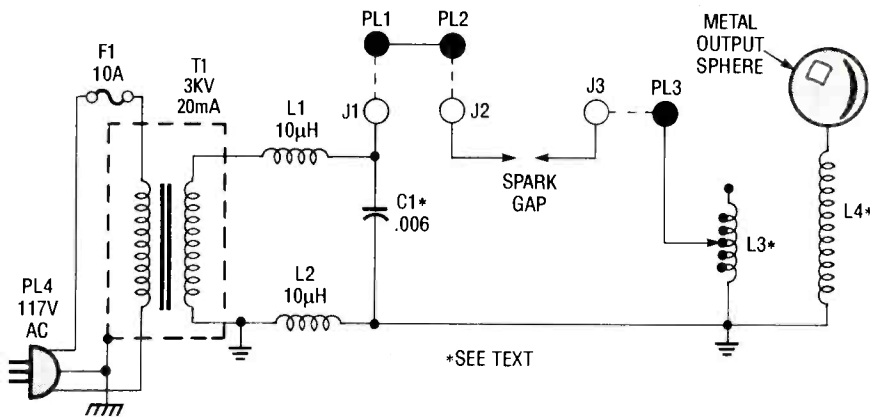

Fig. 1. The Tesla Coil circuit consists of little more than a few coils, a step-up power transformer, and a capacitor.
**Circuit Description.** Figure 1 shows the schematic diagram of the Tesla Coil circuit. The circuit consists of little more than a few coils, a step-up power transformer, and a capacitor. Power from an AC wall socket is fed to transformer T1 (a small neon-sign transformer) which steps the voltage up to about 3000-volts AC.
The rotary spark gap is connected to the Tesla Coil through separate wires and banana jacks (J4 and J5). When the circuit is powered up, the current that normally travels through the stationary spark gap on the Tesla Coil is rerouted through the rotary gap via J4 and returned to the Tesla Coil via J5. To make the connections plug PL1 into J1, PL2 into J4, and PL3—which in Fig. 1 is used to connect the output of the stationary spark gap to L3—into J5.
you avoid metal enclosures. Because the circuit consists of very few parts, its components can easily be hard-wired together within the housing, using Fig 1 as a guide. There is nothing particularly critical about the layout of the circuit. Just be sure to maintain adequate spacing between the individual com-